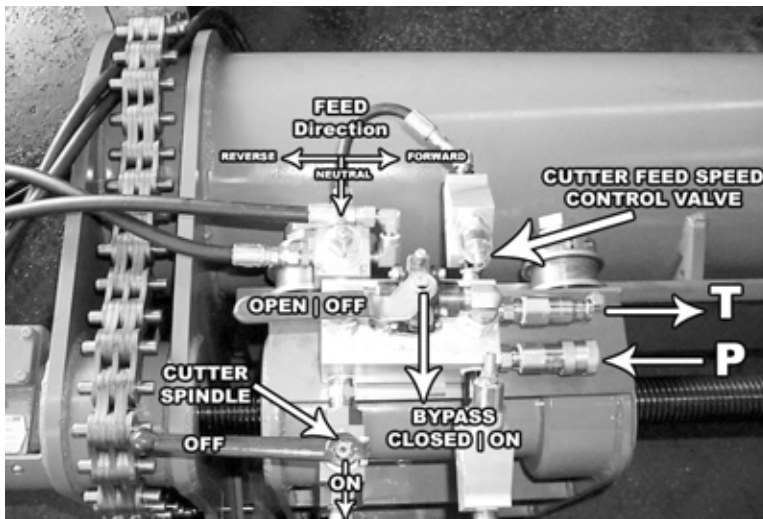

Figure 3-19. The photo illustrates the operation of the machine-mounted control unit.
3. The controls for the rail mill are described in Figure 3-19. Close the bypass valve to direct hydraulic flow into the manifold.